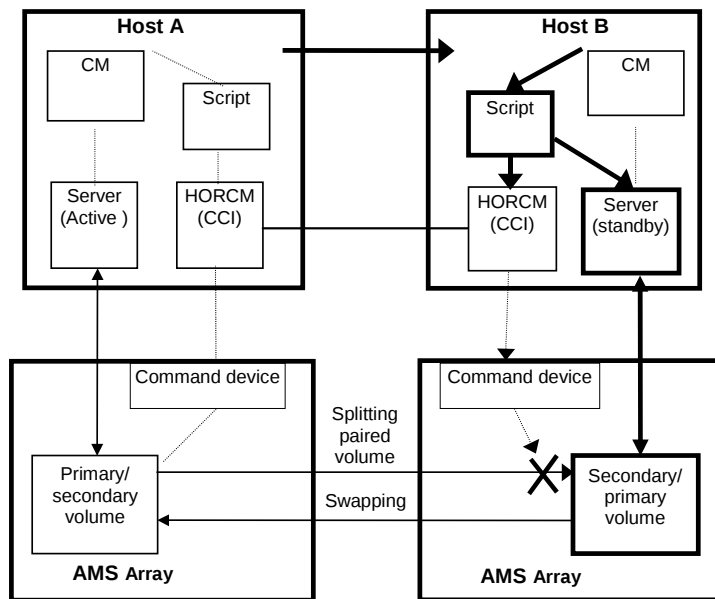

Figure 2-6: Server Failover System Configuration
Figure 2-6 illustrates the server failover system configuration. When a server software error or a node error is detected, the operation of the failover software causes the Cluster Manager (CM) to monitor server programs, and causes the CM of the standby node to automatically activate the HA control script of the corresponding server program. The HA control script usually contains the database recovery procedures, server program activation procedures, and other procedures. The takeover commands provided by TrueCopy are activated by the control HA script and execute the control needed for failover of the server.